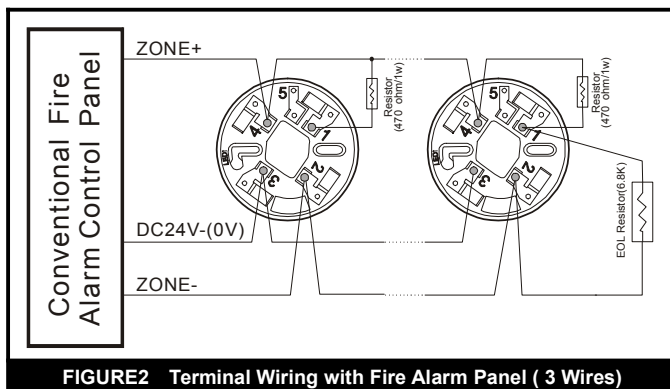
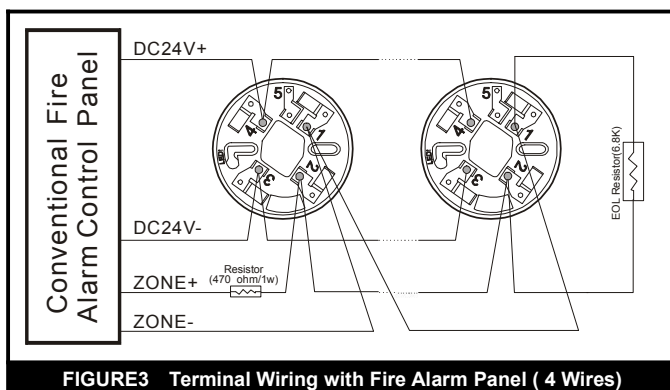

FIGURE2 Terminal Wiring with Fire Alarm Panel ( 3 Wires)
FIGURE3 Terminal Wiring with Fire Alarm Panel ( 4 Wires)
- The detector can be connected with conventional alarm panel as Figure 2 or Figure3.